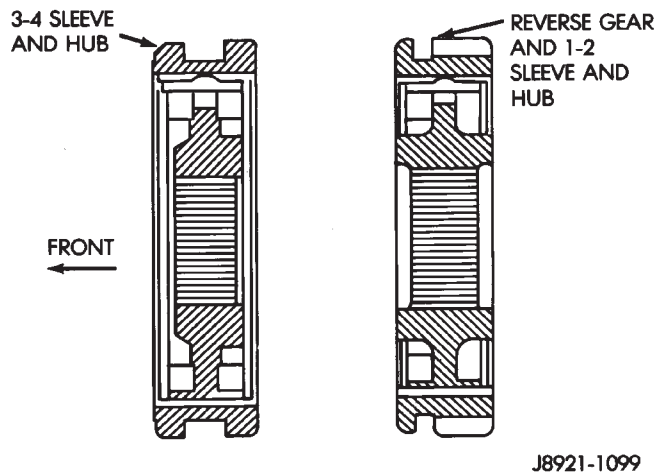

Fig. 74 Synchro Sleeve And Hub Identification
(4) Assemble 1-2 and 3-4 synchro hubs and sleeves (Fig. 74).